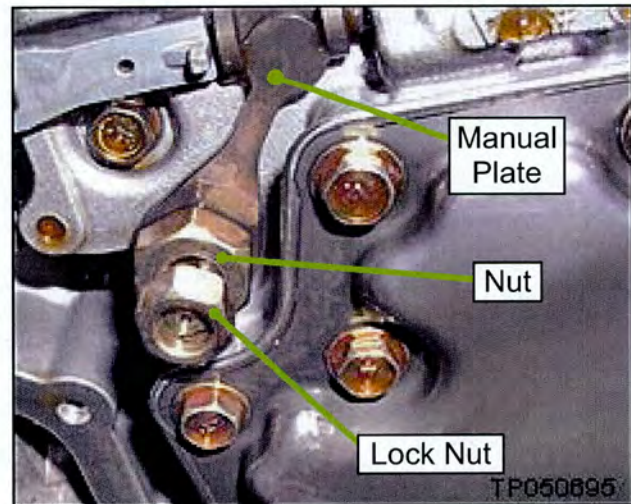

Figure 2
9. Remove the nut and lock nut to remove the manual plate (see Figure 2).